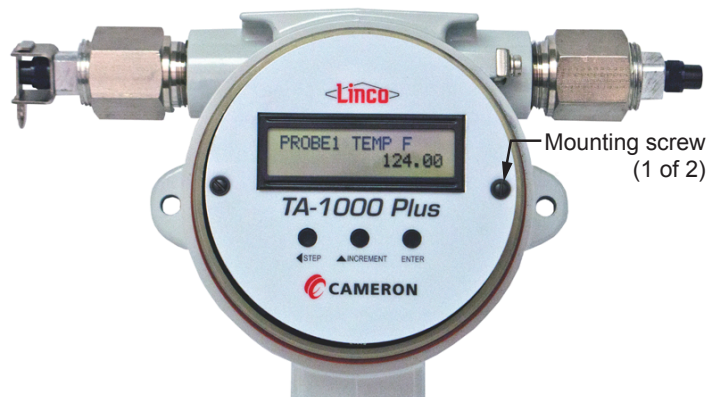

Figure 5.13—Faceplate showing location of mounting screws
3. Open the enclosure cover and loosen the two screws and washers on either side of the display (Figure 5.13, Page 52) to release the top circuit assembly from its mount.